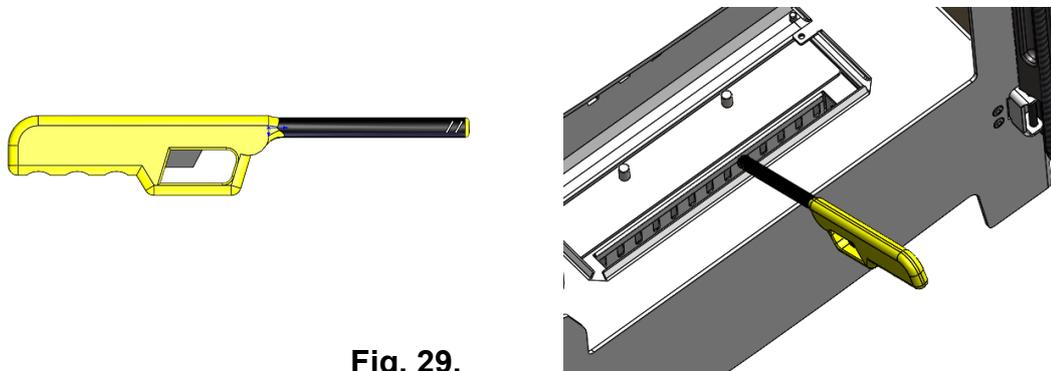

Fig. 29.
- Using a long match or we recommend a long reach gas lighter, ignite the burner. See Fig. 29.
- Care must be taken when opening and closing the fire door as any surrounding surfaces will be VERY HOT. See Fig. 29.